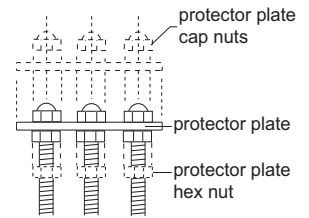

Fig. 14
- A. Remove the cap nuts, protector plate and protector plate hex nuts. (Fig. 14)